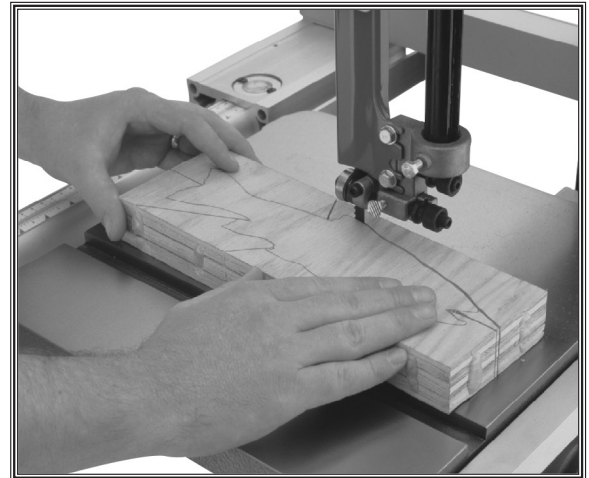

Figure 44. Typical stacked cut.
5. Cut the stack of pieces as though you were cutting a single piece. Follow your layout line with the blade kerf on the waste side of your line as shown in **Figure 44**.